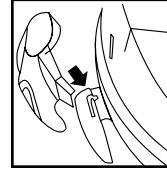

FIGURE 9
10. Place "J" shaped tabs into the slots on cord wraps **FIGURE 9**. Press down until tabs snap into place.